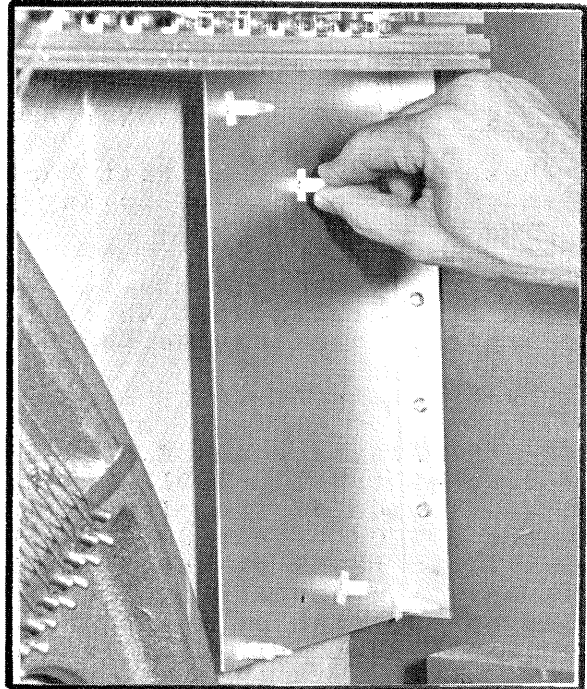

FIGURE 7-3 Insert the Supports in the holes in the Bracket.
Insert the six (6) short plastic Supports (PN CBS-8N) in the Bracket as shown in FIGURE 7-3. Please notice the way the Supports are installed on the Bracket and the position of the center Supports.